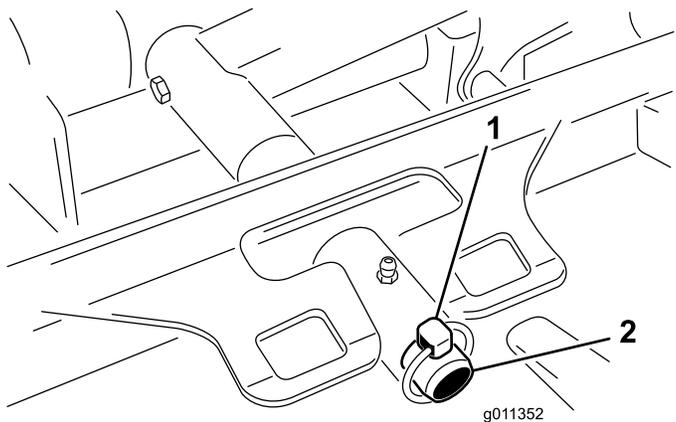

Figure 82
3. Remove the lynch pin or retaining nut (Groundsmaster 4700 only) securing the deck-carrier frame to the lift-arm pivot pin (Figure 82).
3. Slide deck carrier frame onto lift-arm pivot pin. Secure with lynch pin or retaining nut (Groundsmaster 4700 only) (Figure 82).